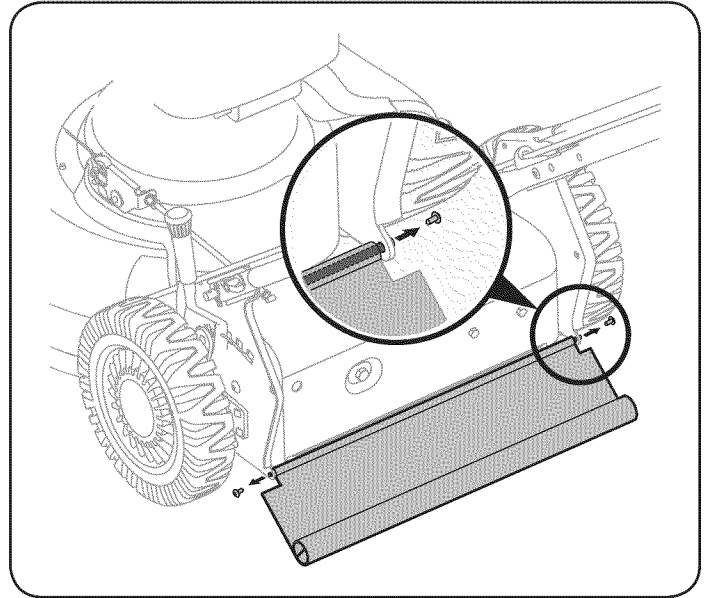

Figure 16
1. To remove rear flap, lift rear door, remove screw, and press flap in on either side to remove from hole. See Figure 16.